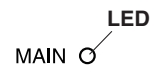

Fig.3-4 Power Indicator
① Power Indicator (Fig.3-4) **E**